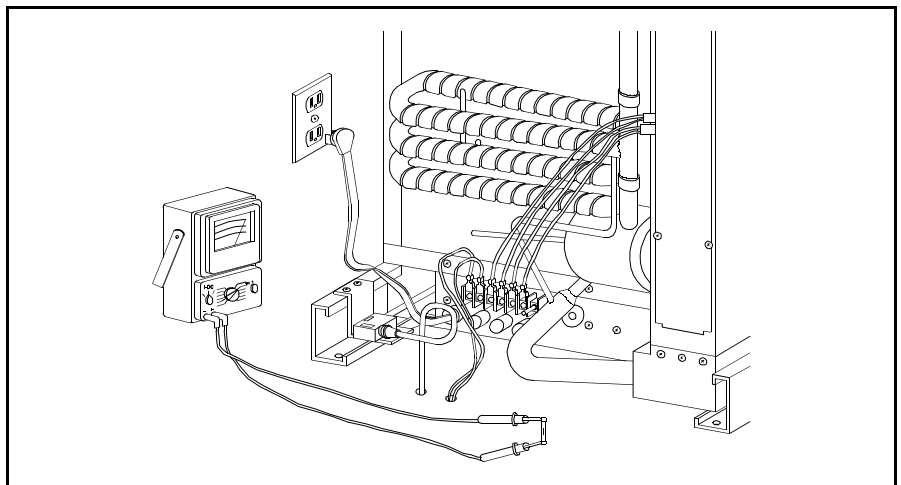

Figure 3.42 Checking F3 Fuse for Continuity
3. Check the continuity of F3 fuse. Figure 3.42 indicates a blown fuse (meter pointer remained at left side of scale. If the fuse was good, the meter pointer would have been to the right side of the scale).